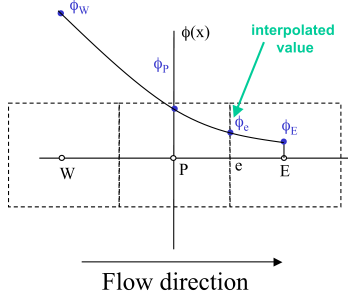

Fig. B.1. Parabolic interpolation used by the *QUICK* scheme.
- a) Build² the quadratic polynomial $\pi_2[\phi](x)$ that fits ϕ at values ϕ_W , ϕ_P and ϕ_E (see Fig. B.1).